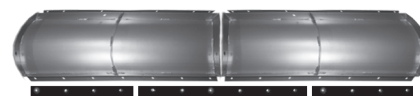

fig.4
4. Attach the scraper (three pieces, a long, S^L and two short ones, S^S; fig.4, at left) to the front lower edge of the full blade using 30 mm (1.18") x M10 grade 8.8 carriage bolts, 10 mm washers, and M10 Nylock nuts (fig.5). The long piece of the scraper overlaps both halves of the blade. The shorter piece fills in the rest. The carriage bolts are inserted so that their domed caps are at the front of scraper, which lies on the lower front (concave side) edge of the blade. The nuts screw on from the back (convex) side of the plow blade. Tighten the nuts.